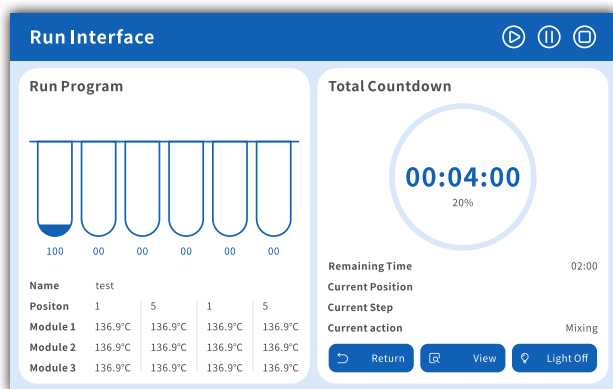

Figure 6
03.Click the Run button to enter the program execution interface. The top-right corner buttons, from left to right, are: Run, Pause, and Stop (Refer to Figure 6).